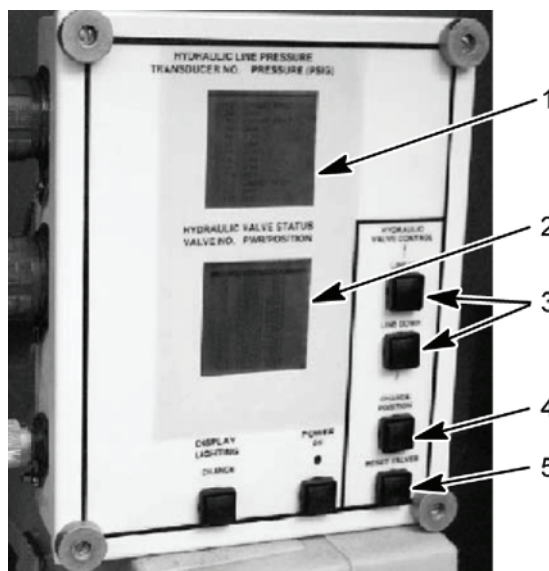

Figure 28. HDC Control Box
- Reset all HDC solenoid valves by selecting the RESET VALVES button (Figure 28, item 5) on the HDC control box.
- For 3R; using LINE UP or LINE DOWN button (Figure 28, item 3), select V15 on the HDC display (Figure 28, item 2). Close V15 on the HDC display (Figure 28, item 2) by selecting the CHANGE POSITION button (Figure 28, item 4) on the HDC control box.
- Have assistant start engine. Move right-hand SUSPENSION CONTROL lever to RAISE. Read transducer T-1 hydraulic pressure on the HDC display (Figure 28, item 1).
- Using LINE UP or LINE DOWN button (Figure 28, item 3), select V15 on the HDC display (Figure 28, item 2). Open V15 on the HDC display (Figure 28, item 2) by selecting the CHANGE POSITION button (Figure 28, item 4) on the HDC control box.
- For 3L; using LINE UP or LINE DOWN button (Figure 28, item 3), select V16 on the HDC display (Figure 28, item 2). Close V16 on the HDC display (Figure 28, item 2) by selecting the CHANGE POSITION button (Figure 28, item 4) on the HDC control box.